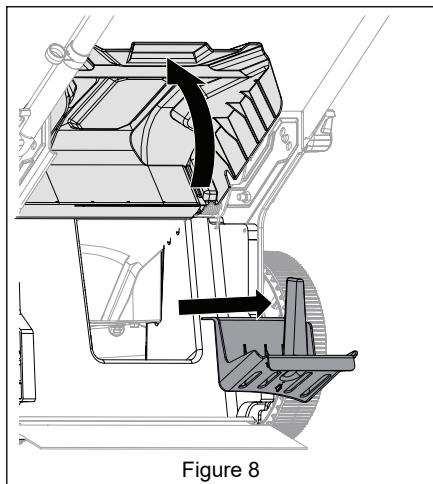

Figure 8
2. Lift rear door and remove mulch plug. See Figure 8.
3. Lift rear door and remove mulch plug. See Figure 8.